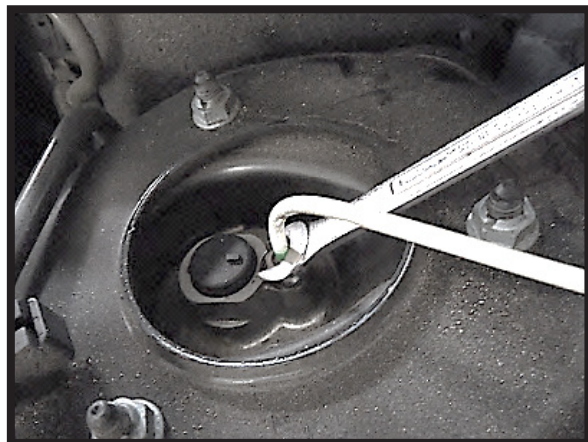

FIGURE 3
3. REMOVE AIRLINE AND THREE (3) UPPER MOUNT NUTS. (FIGURES 3, 4)